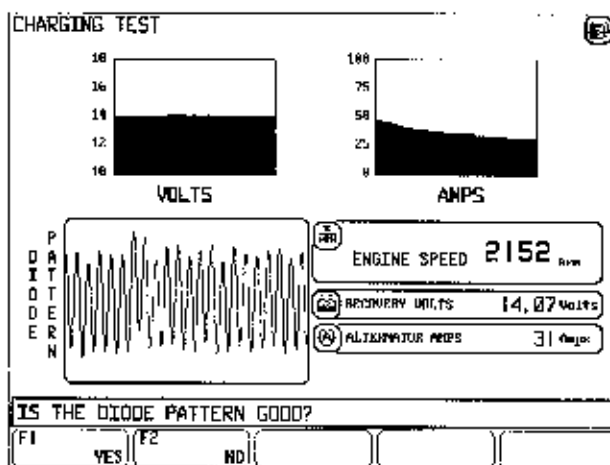
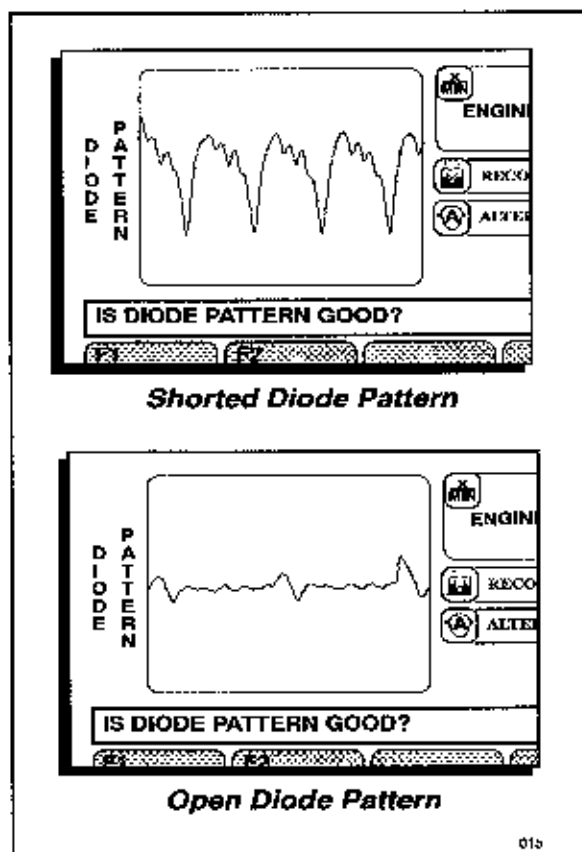

Figure 2-3
Figure 2-4
6. The prompt "Accelerate To 2000 RPM Within 5 Seconds" appears. Accelerate smoothly to 2000 RPM. The screen will then display the charging test readings (see Figure 2-3).
8. The diode pattern will appear in the lower left-hand corner of the screen (see Figure 2-3). Follow the screen prompt and determine whether the diode pattern is good or bad. Compare the pattern on the screen to the patterns shown on this page. A good pattern will have regular, even waves, with some variation acceptable. A bad pattern has uneven or irregularly-shaped waves (see Figure 2-4). Press:
1. The prompt *"Accelerate To 2000 RPM Within 5 Seconds"* appears. Accelerate smoothly to 2000 RPM. The screen will then display the charging test readings (see Figure 2-3).
3. The diode pattern will appear in the lower left-hand corner of the screen (see Figure 2-3). Follow the screen prompt and determine whether the diode pattern is good or bad. A good pattern will have regular, even waves, with some variation acceptable. A bad pattern has uneven or irregularly-shaped waves (see Figure 2-4). Press: